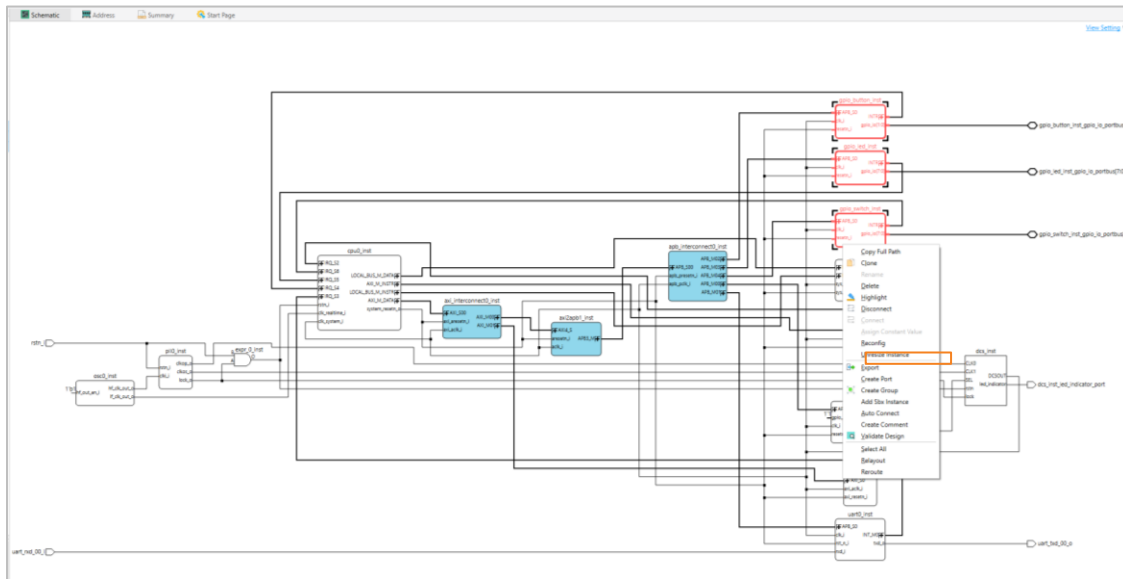

Figure 2.74. Create Group Right-Click Menu
- Support creating group with selected instances. Click on the instances you want to group, and right-click on them, choose **Create Group** (Figure 2.74). You can deselect/select the instances in the dialog. (Figure 2.75)